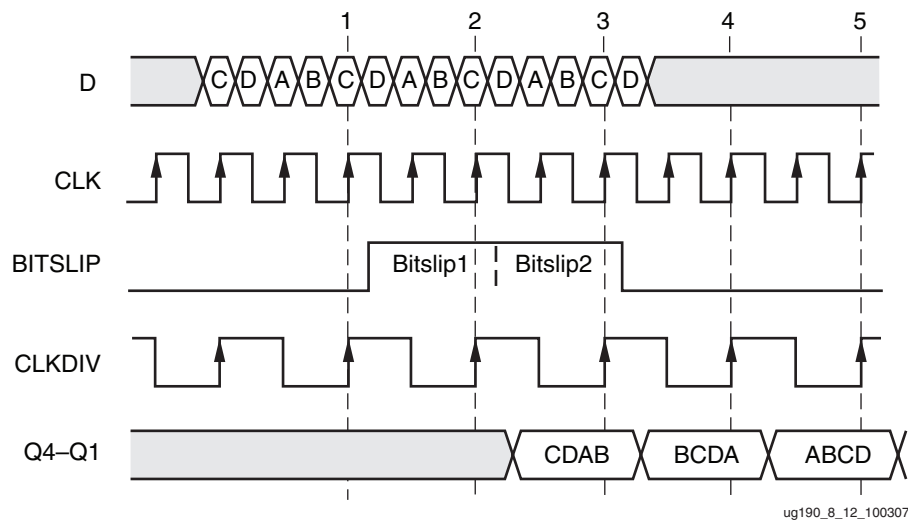

Figure 8-12: Bitslip Timing Diagram
When the ISERDES interface type is MEMORY, the latency through the OCLK stage is one CLKDIV cycle. However, the total latency through the ISERDES depends on the phase relationship between the CLK and the OCLK clock inputs. When the ISERDES interface type is NETWORKING, the latency is two CLKDIV cycles. See Figure 8-12, page 368 and Figure 8-13, page 369 for a visualization of latency in networking mode. The extra CLKDIV cycle of latency in networking mode (compared to memory mode) is due to the Bitslip submodule.
This section discusses the timing models associated with the Bitslip controller in a 1:4 DDR configuration. Data (D) is a repeating, 4-bit training pattern ABCD. ABCD could appear at the parallel outputs Q1–Q4 of the ISERDES in four possible ways: ABCD, BCDA, CDAB, and DABC. Only one of these four alignments of the parallel word makes sense to the user's downstream logic that reads the data from the Q1–Q4 outputs of the ISERDES. In this case, ABCD is assumed to be the word alignment that makes sense. Asserting Bitslip allows the user to see all possible configurations of ABCD and then choose the expected alignment (ABCD). Figure 8-12 shows the timing of two Bitslip operations and the corresponding re-alignments of the ISERDES parallel outputs Q1–Q4.